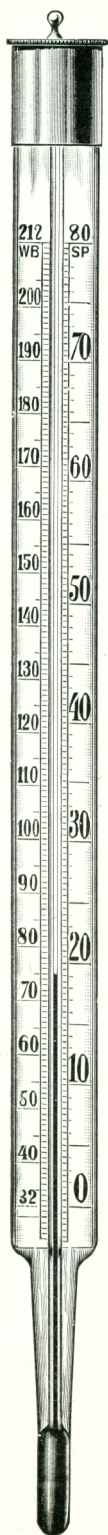

FIG. 65.
- No. 3074. Fig. 65—14 inch cylindrical milk glass scale, normal standard Brewers' Test Thermometer, graduated in single degrees Fahrenheit, and in $\frac{1}{2}^{\circ}$ degree Reaumur, from 32° to 212° Fahrenheit. Each Thermometer accompanied with a certificate of corrections Each.